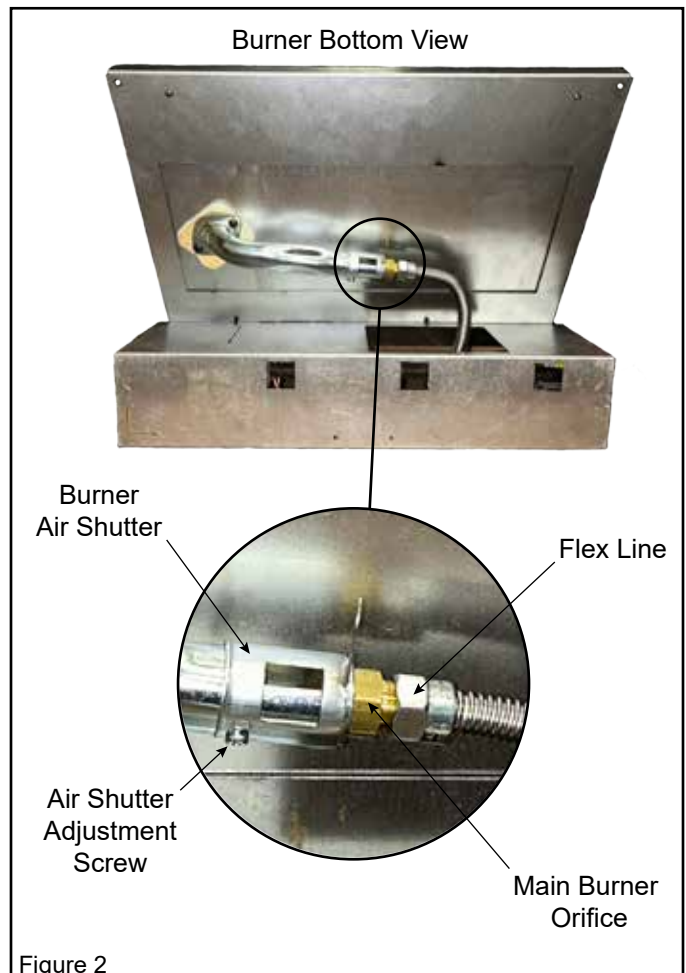

Figure 2
2. Disconnect Flex Line from Main Burner Orifice. See Figure 2.
3. Remove existing Main Burner Orifice from Air Shutter and discard. See Figure 2.